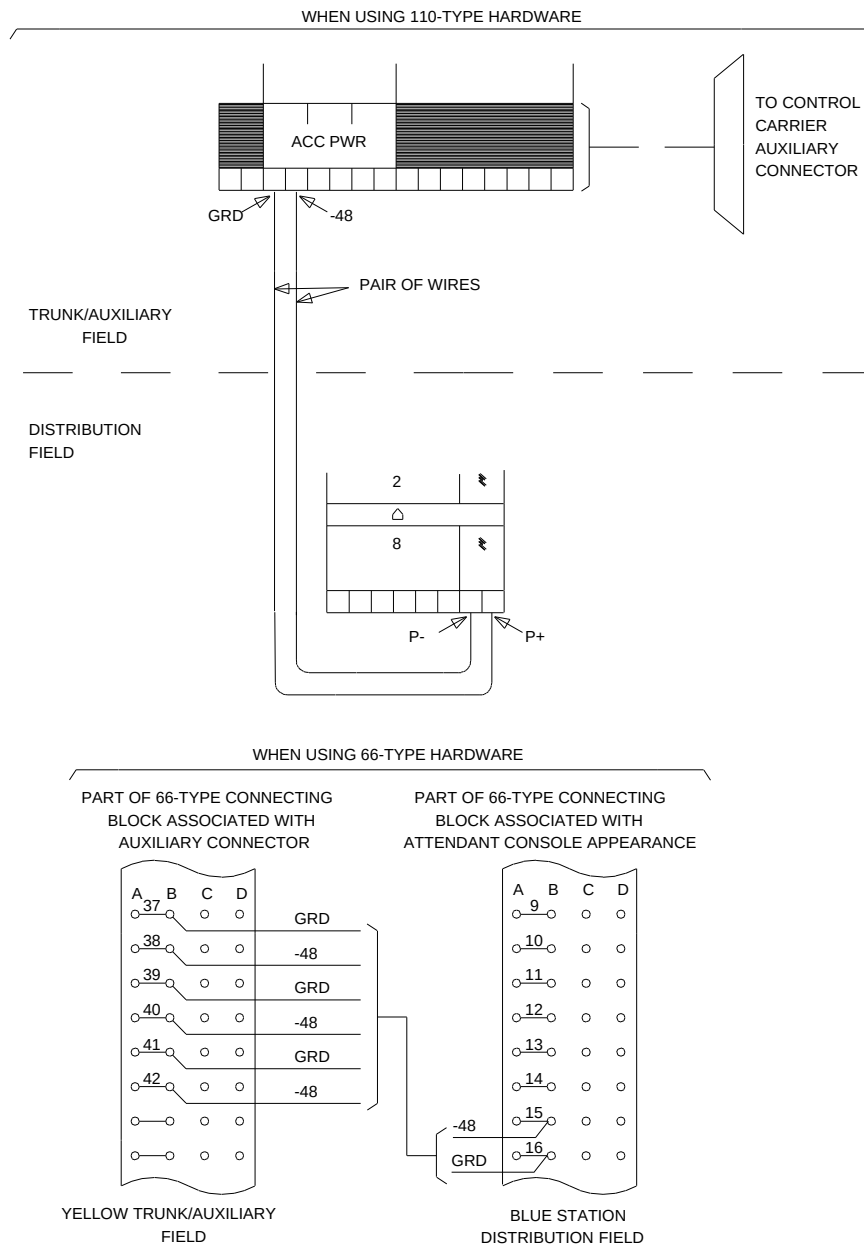

Figure 10-15. Wiring Required at Cross-Connect Field for Attendant Console Remotely Powered from Switch Cabinet: G1 Multi-Carrier Cabinet Only
4. Connect jumpers (-48V and GND) from terminal/connecting block in yellow trunk/auxiliary Field to attendant console appearance on the station side of the distribution field (Figure 10-15).